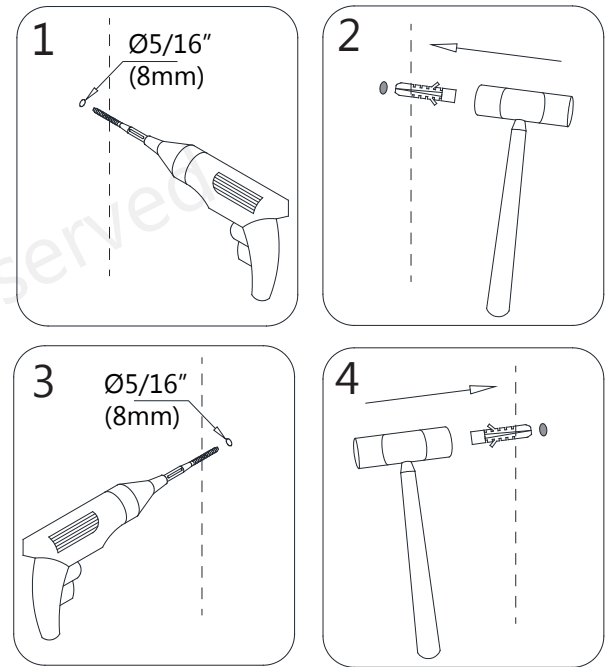

**Fig 8**
**8.** Check that the frame assembly is plumb on the wall and even across the threshold. Mark the position of the **Wall Profiles (#01)** on the wall and mark the holes for drilling through the pre-drilled holes in the wall profile flanges. **(Fig 8)**